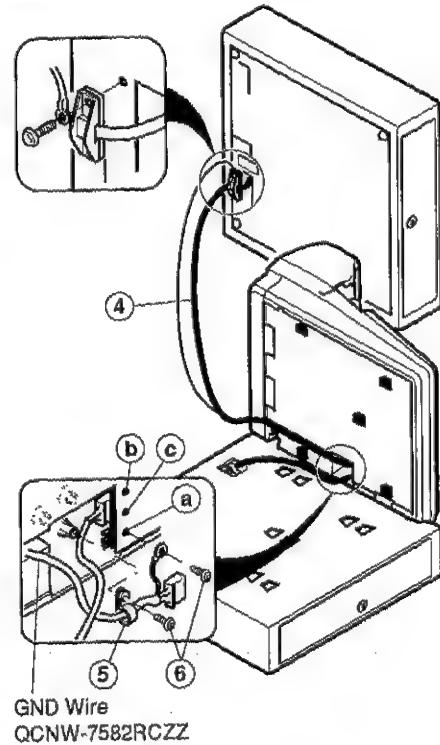

Fig. 2
- 4) Fasten the remote cable ④ to the main PWB connector (Fig.2)
- 5) The remote drawer cable and grounding wire must be secured using the cable clamp ⑤ and the screw ⑥ (XUBSD30P08000) comes with the product.
- 6) Put the grounding wire of the remote drawer into the screw hole in the lower cabinet and fasten it with the screw ⑥. (Use the holes ④ and ⑤ in the illustration. Never use the hole ⑥. If the third and fourth drawers are to be added, share the holes ④ and ⑤ among the drawers.)